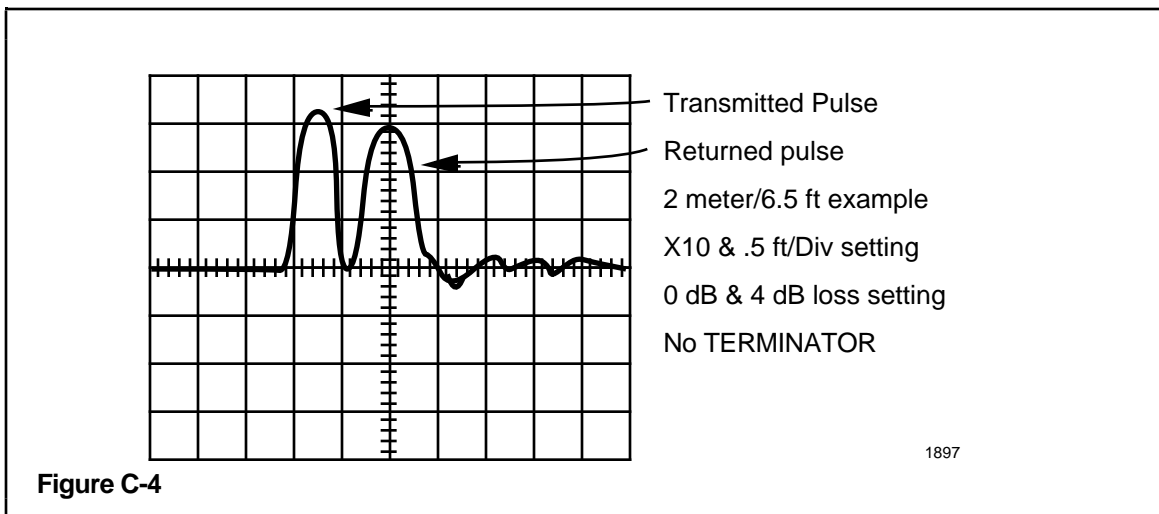

Figure C-4
6. The screen should look like Figure C-4 or Figure C-7.